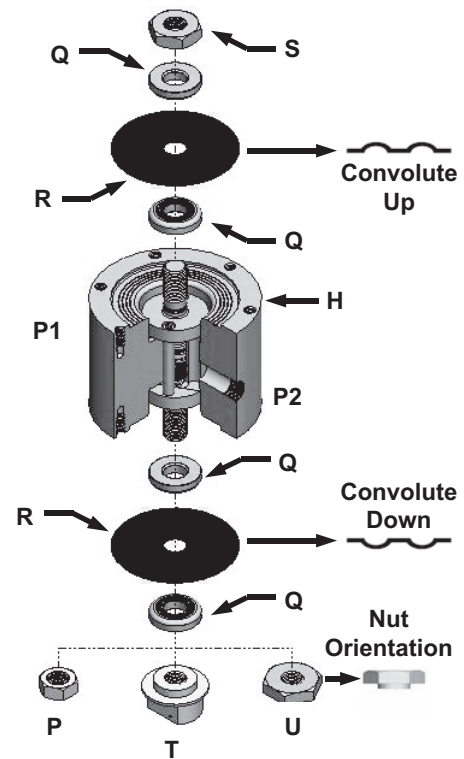

Figure 9
(Figure 9)
Step 22: Slide one grooved Washer (Q) onto both the Outside Piston (J) and Bottom Inside Piston (O), with the grooves facing away from the Bottom Body (H).
Step 23: Install one Convolute Diaphragm (R), oriented as shown in Figure 9, onto each Washer (Q).
Step 24: Install another Washer (Q) onto each Piston (J, M) with grooves facing the Diaphragms (R).
Step 25⁽¹⁾: Thread the Aluminum Special Lat Nut (S) onto the Bottom Inside Piston (O).
- For a VRP-SB-PID-40, thread another 1/2-20 SS Hex Jam Nut (P) onto the Outside Piston (J).
- For a VRP-SB-PID-80, thread a SS Spring Nut (T) onto the Outside Piston (J).
- For a VRP-SB-PID-125, thread an Aluminum Spring Nut (U) onto the Outside Piston (J).